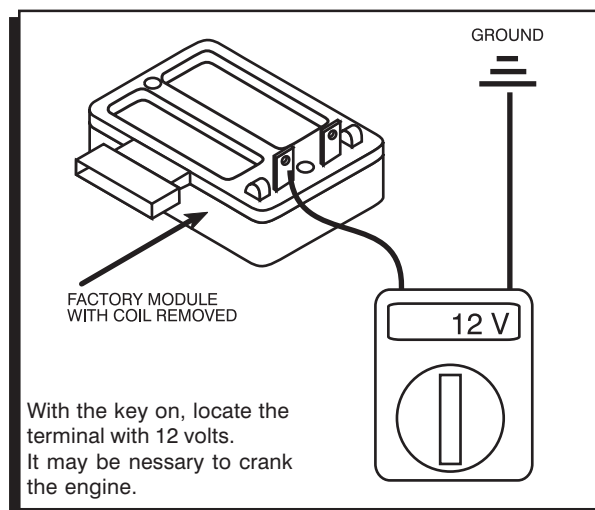
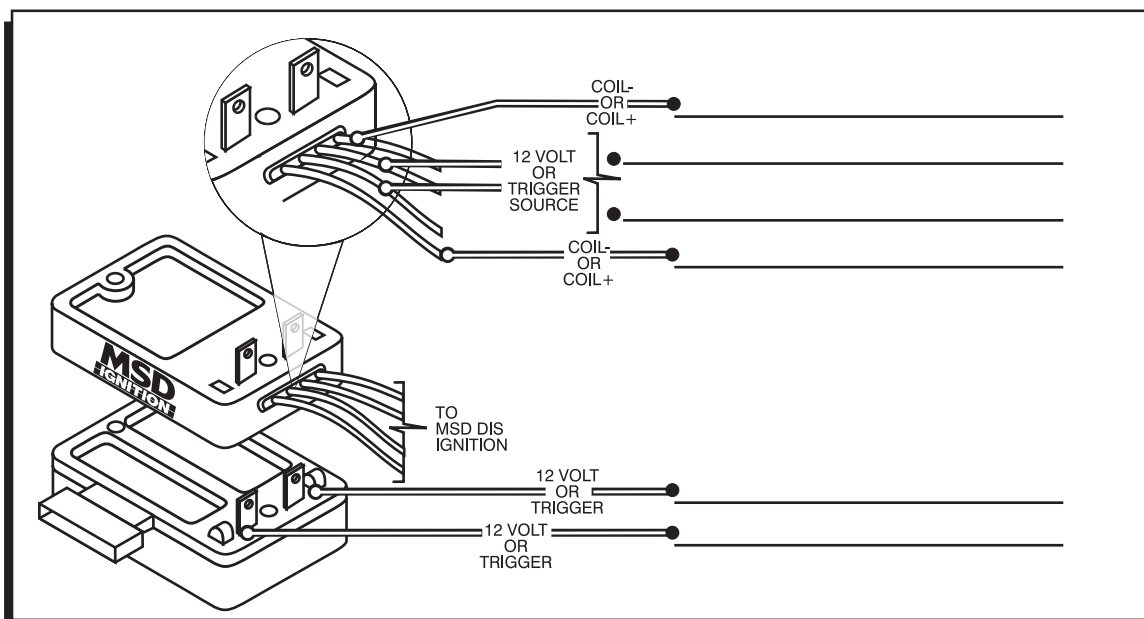

Figure 2 Identifying 12 Volts.
Figure 4 Write in Your 12 Volt Application.
3. There will be two male terminals beneath each coil pack. To ensure which terminal is the 12 volt source, use a volt meter and probe (test) each terminal, with the ignition turned On (Figure 2). A blank diagram is supplied in Figure 4 that allows you to note your vehicle's wiring.